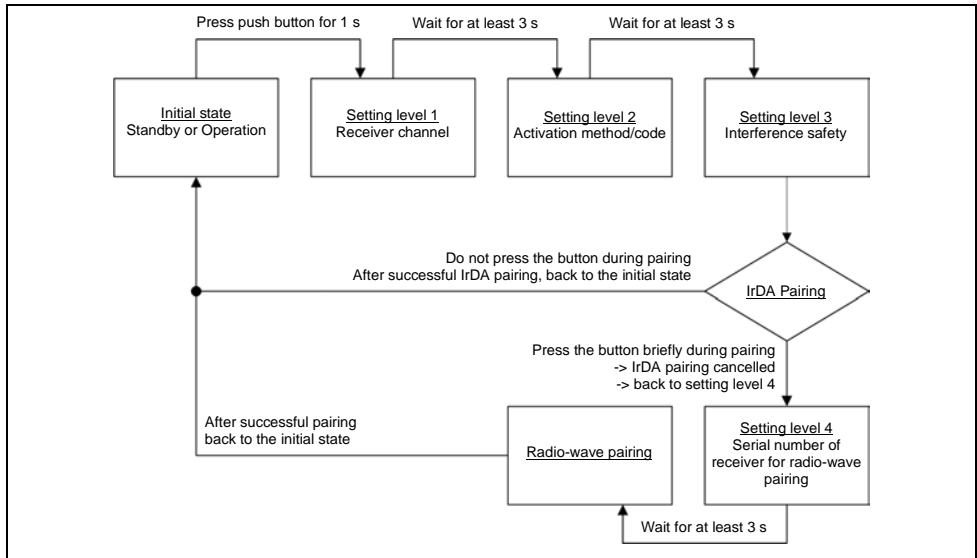

Fig. 15 Menu structure
- ▶ If the button is pressed again, the display automatically jumps to **Pairing via radio-wave** (see also Fig. 15, setting level 4).